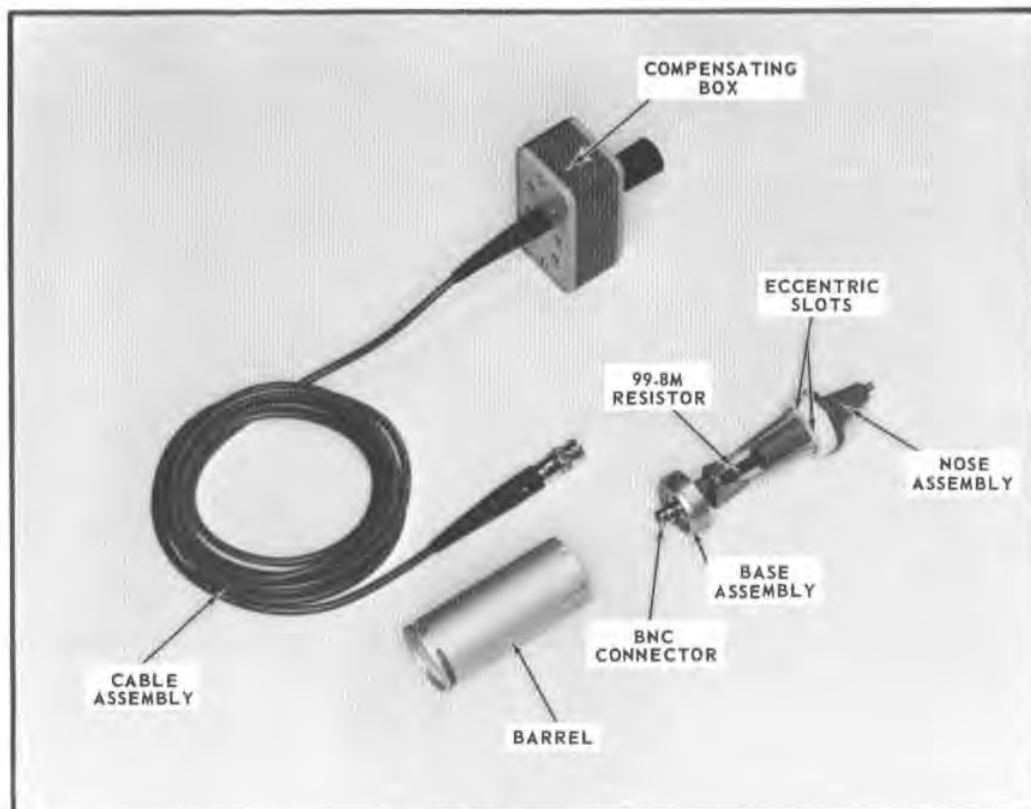

Fig. 3. Probe Assembly.
2. Open 99.8-meg resistor in probe body. This results in AC coupling and is indicated by decay of the Cal signal. To replace the 99.8-meg resistor, dismantle the probe by unscrewing the handle, disconnecting the cable assembly, and pushing the metal barrel out of the probe body (see Fig. 3). Then remove the screws from both ends of the barrel and slide the nose and base assembly out. Insert the replacement nose assembly into the base assembly, being sure that the metal capacitor fingers of the base assembly fit properly into the eccentric circular slots in the nose assembly. Do not bend the